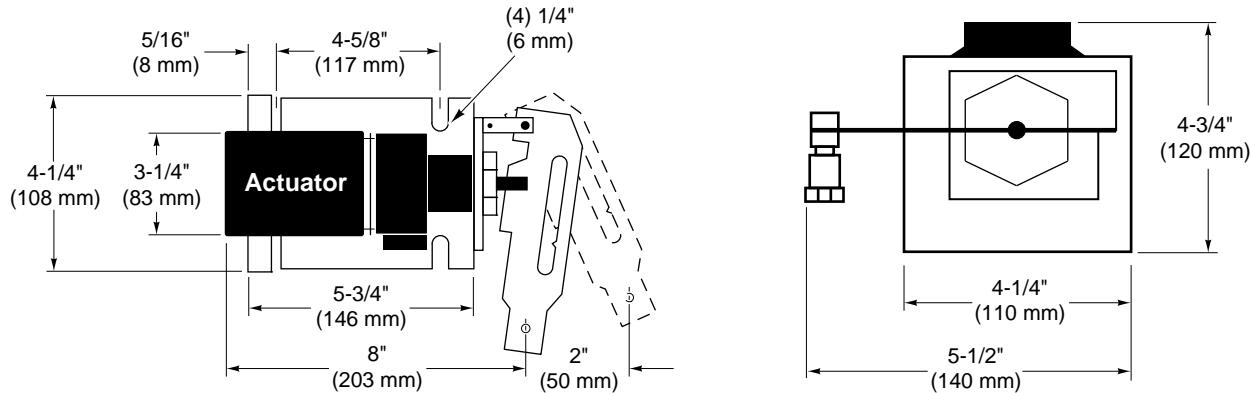

Figure-21 Damper Linkage Assembly Dimensions.
- b. Be sure to allow adequate working space around the actuator mounting location to mount the actuator, link it to the damper, and wire it into the system (refer to Figure-21 ).
2. Position the actuator on the duct and mark the location of the mounting holes, using the actuator mounting bracket as a template (refer to Figure-21 ).